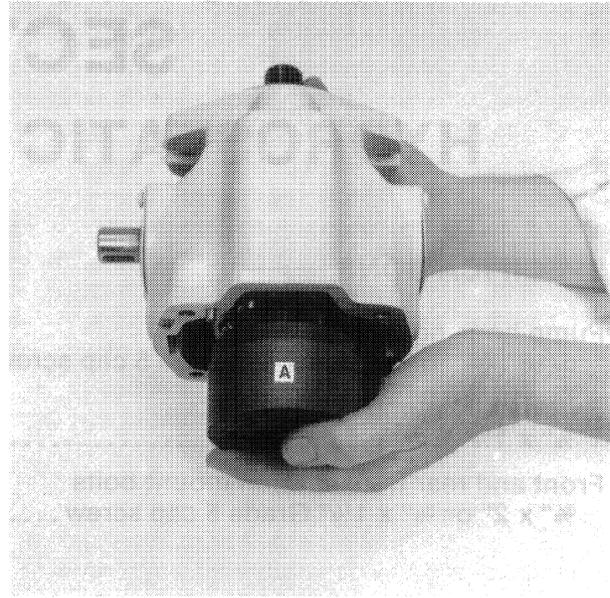

FIGURE 4-4
6. Hold the rotating piston block, A, Figure 4-4, in one hand and tilt the open end of the housing down. Turn the rotating piston block and pull it out as a complete unit without scratching or burring the parts.